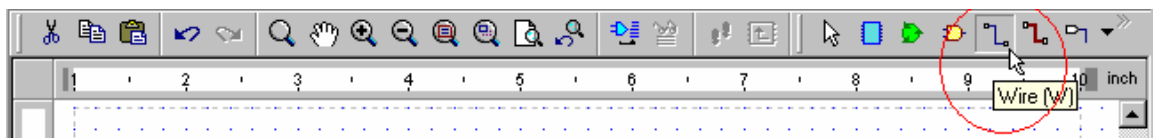

Figure 21
1. Click on the Wire icon in the toolbar (see Figure 21).